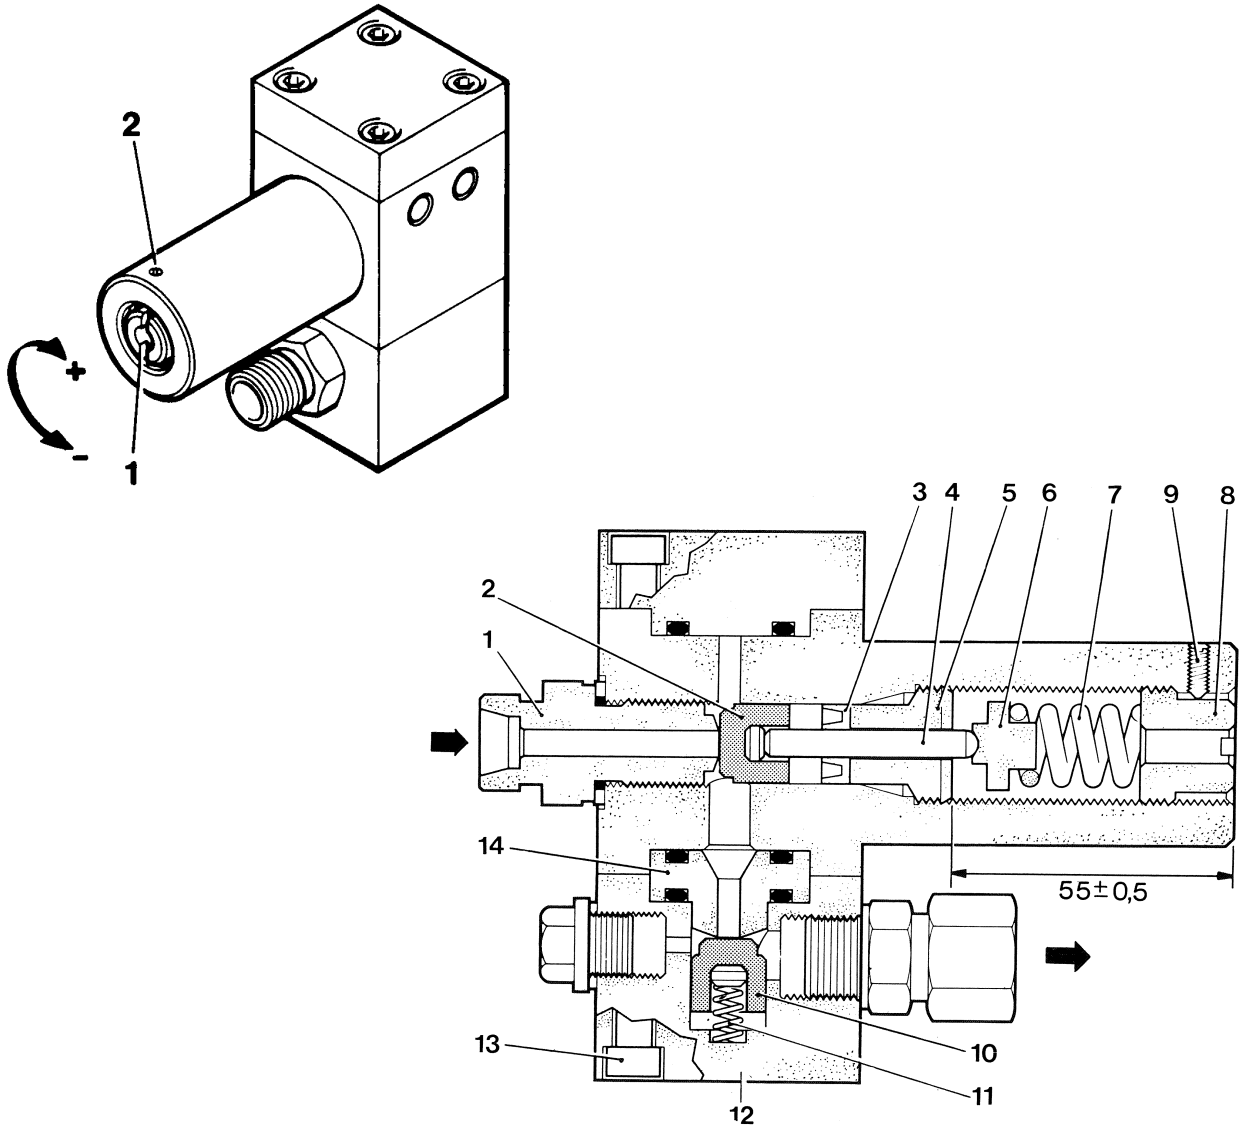

Fig. 70 Pressure maintaining valve, 350 bar units /3600
The opening pressure is adjustable with screw (1, Fig. 70). First turn out stud (2) several turns.